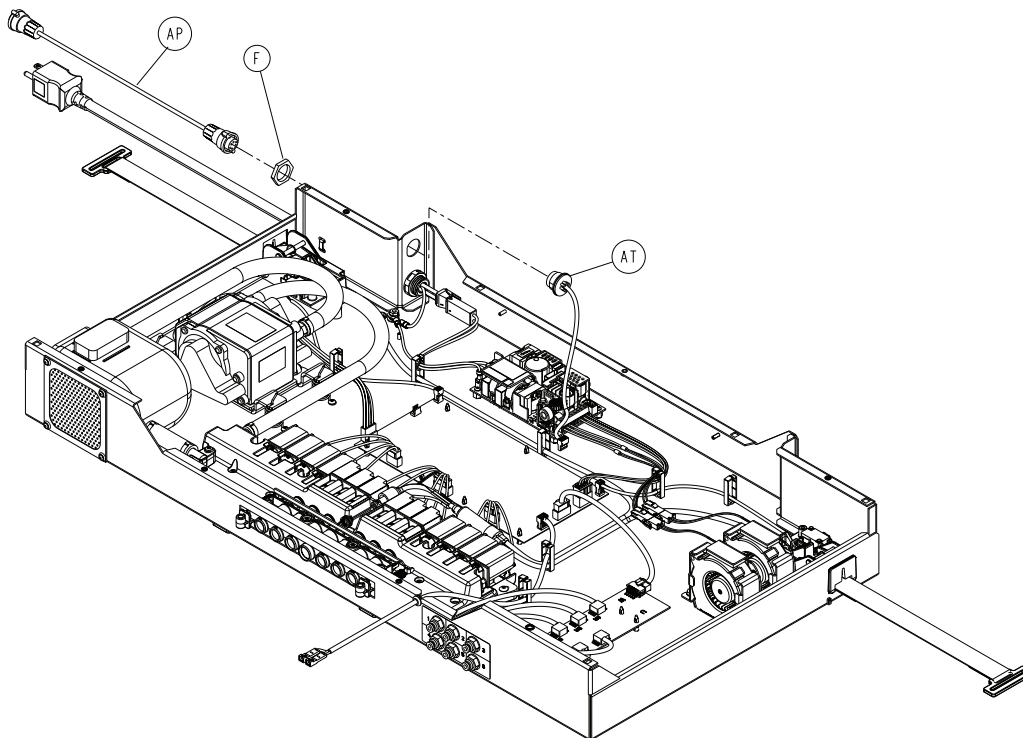

Figure 1-23: Bed integration cable connector
2. Using your fingers, disconnect the bed integration cable connector (AP) from the foot box by rotating the turn-lock counterclockwise (Figure 1-23 on page 1-50).
3. Using a 1" combination wrench, remove the plastic retaining nut (F) on the bed integration cable connector securing it to the foot box. Save the nut.
4. Disconnect the can inner cable (AT) from the main board (connector J) (Figure 1-23 on page 1-50).